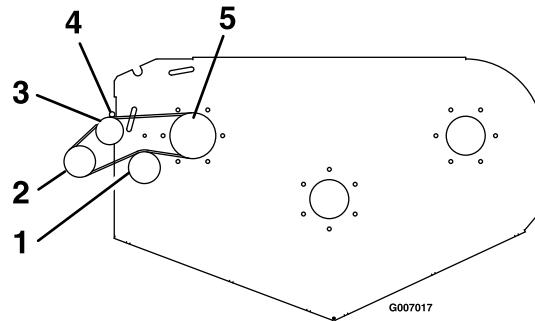

Figure 17
- D. Pull the spring loaded idler release handle back and install the belt in the upper groove of the top spindle sheave. The belt should be routed as shown in Figure 17.